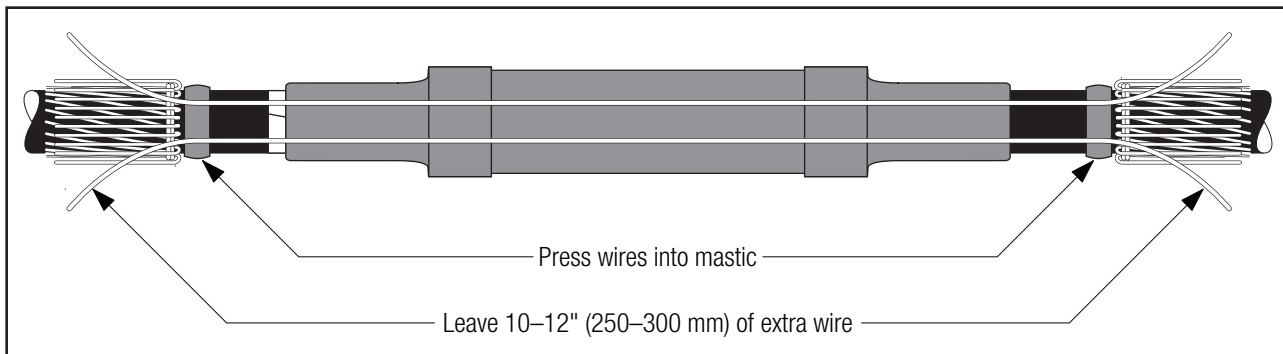

Figure 28
8.1.2 Run two solid bare wires across the splice and press them into the mastic on both cables. Leave 10"–12" (250–300 mm) of extra wire past each mastic (*Figure 28*).